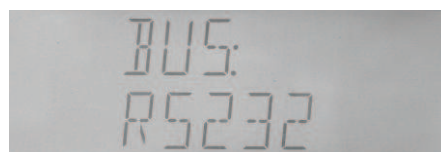

Figure 4-30 System setup
- At system setup page, select "BUS" through 【◀】 or 【▶】 key, as shown in Figure 4-30.